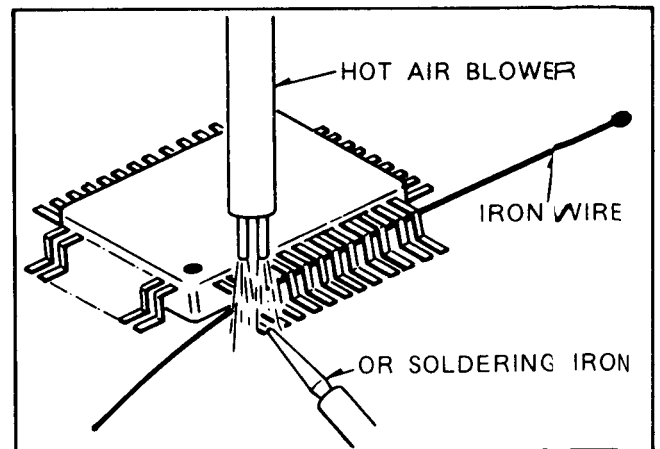

FIG. G12
- (1) Affix the wire to workbench or solid mounting point as shown in FIG. G12.
- (2) Pull up wire as the solder melts so as to lift the IC lead from the PCB contact pad, while heating the pins using a fine tip soldering iron or hot air blower.